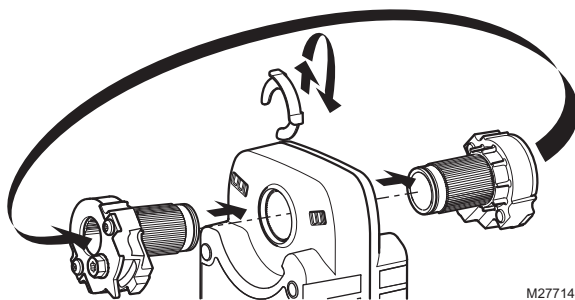

Fig. 9. Change actuator to normally open.
- (1) Change setting of reverse/direct-acting switch, or
- (2) Remount actuator on the bracket.
- d. Move the Self-Centering Shaft Adapter to the opposite side of the actuator, as displayed in Fig. 9.